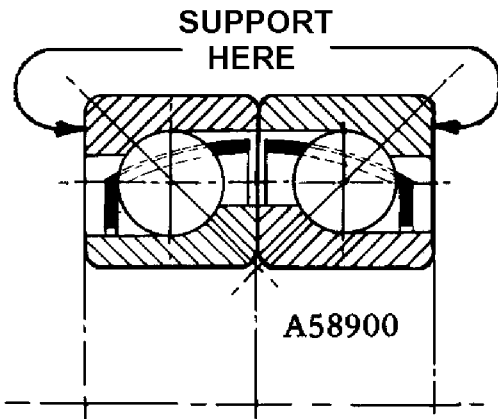

FIGURE 5 - ANGULAR CONTACT BEARING ASSEMBLY
5. The angular contact bearings (29, 30) must be assembled as shown in FIGURE 5, page 29, to assure a "fixed" bearing. The marked face of the inner bearing is placed down in the bearing bore; the marked face of the outer bearing is placed up.